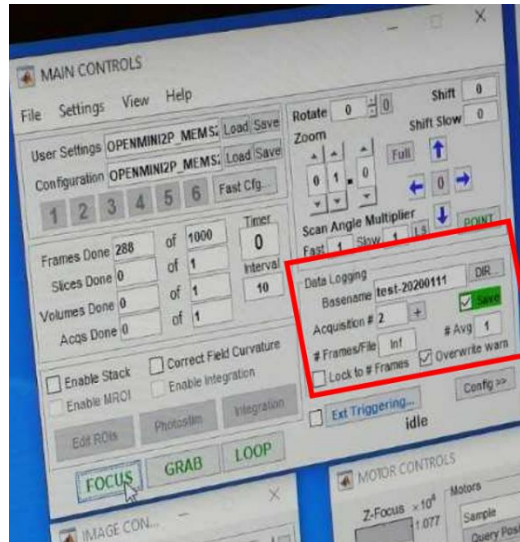

Figure2: Datalogging on Main Controls of Scan Image.
Step16. If loaded correctly, the display should look like Fig2.
Step12. On Main Controls, click Grab to record a FOV image. Before that, do not forget to check Save (see Fig.2)